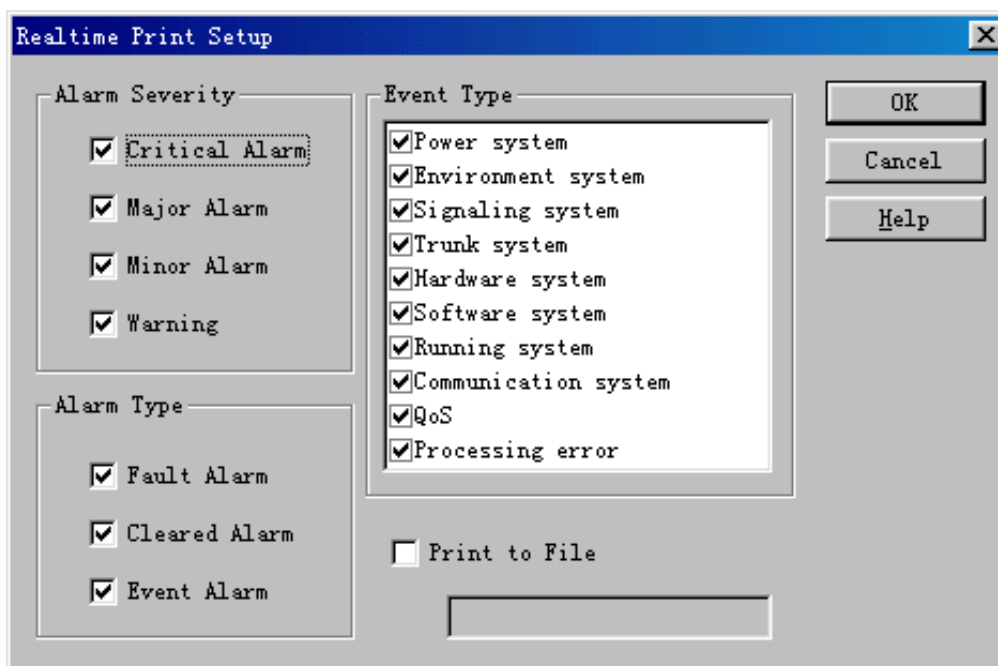

Figure 5-11 Realtime Print Setup dialog box
- 1) Select **System** -> **Realtime Print Setup**. The **Realtime Print Setup** dialog box opens up as shown as Figure 5-11.